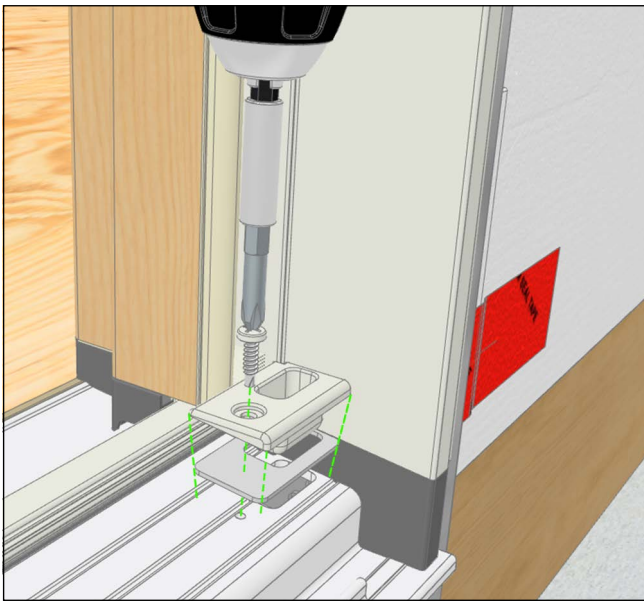

Figure 19
6. Install sill strike using sill color-matched 8-18 x 3/4" pan head screw. See Figure 19